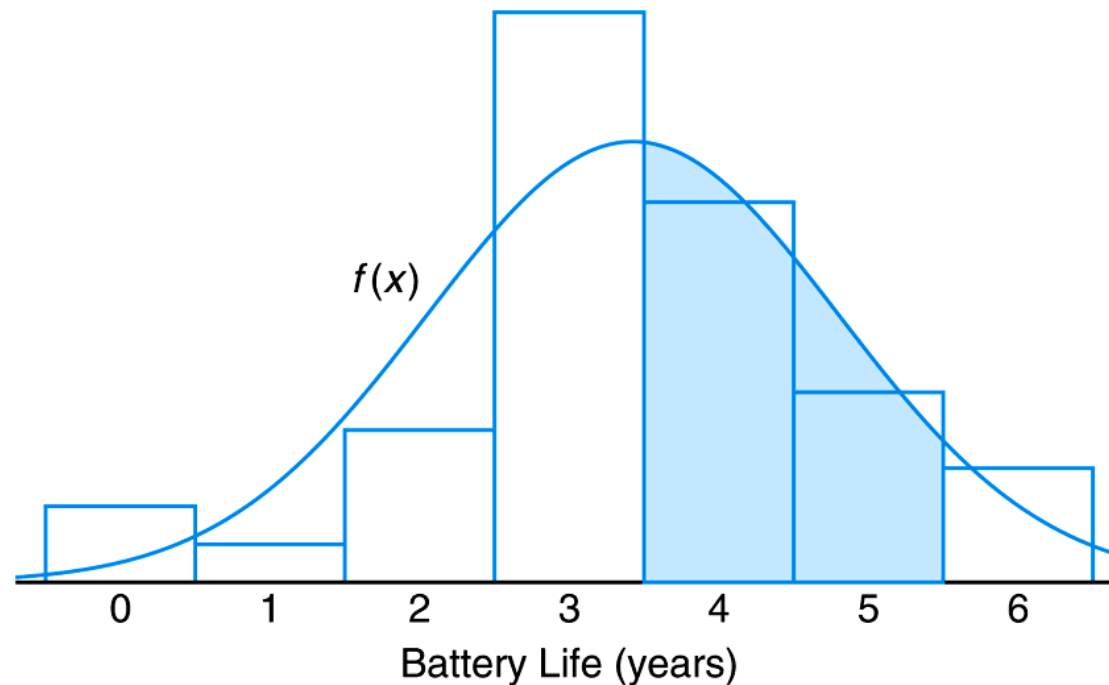

Figure 1.7 Estimating frequency distribution
- Continuous frequency distribution in Figure 1.7: